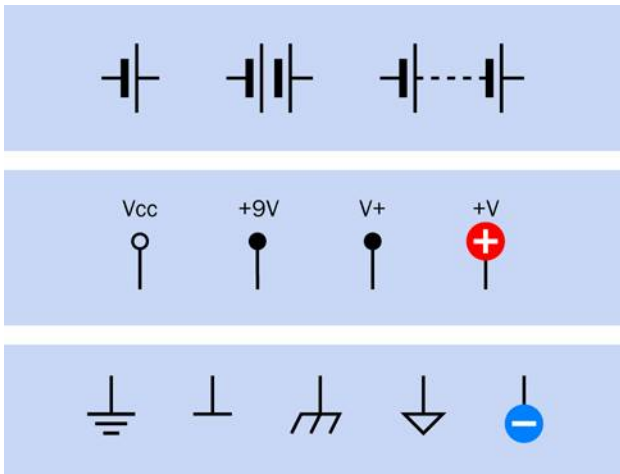

Figure 2-42 Various ways to show positive and negative DC power in a circuit.
2. Power Supply. The power supply for a DC (direct-current) circuit can be indicated in several ways. The top section of Figure 2-42 shows symbols for a battery. A short line indicates the negative end, while a longer line indicates the positive end. Traditionally, a single pair of lines represented a single 1.5-volt cell, two pairs indicated a 3-volt cell, and so on. But when circuits used high voltage with vacuum tubes, the person drawing the schematic would usually show a dashed line between cells instead of drawing dozens of them in a row.
A battery symbol may still be used in a simple schematic, but more often positive and negative DC power is indicated by separate symbols, shown in the center section and the bottom section of Figure 2-42. Positive is applied in one location of a circuit labelled V_{cc} , V_{CC} , or V_+ , or $+V$, or $+V$ with a number added to indicate the
The negative side of the power supply can be shown with any of the symbols in the bottom section of Figure 2-42. It may be referred to as “negative ground” or simply “ground.” Because many parts of a circuit may share a negative potential, multiple ground symbols may be found scattered around a schematic. This is more convenient than drawing lines linking them all together.